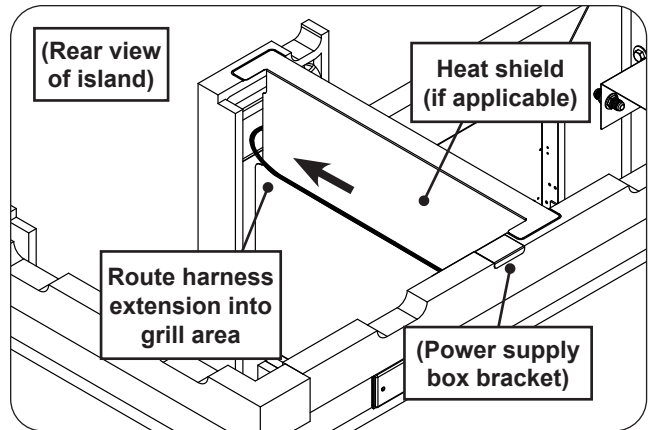

Fig. 12-3 Route power supply box wire
3. Once the power supply box is installed, locate the power supply harness extension that is attached to the power supply and route it along the heat shield (if applicable) and into the grill area (for future grill installation). See Fig 12-3.